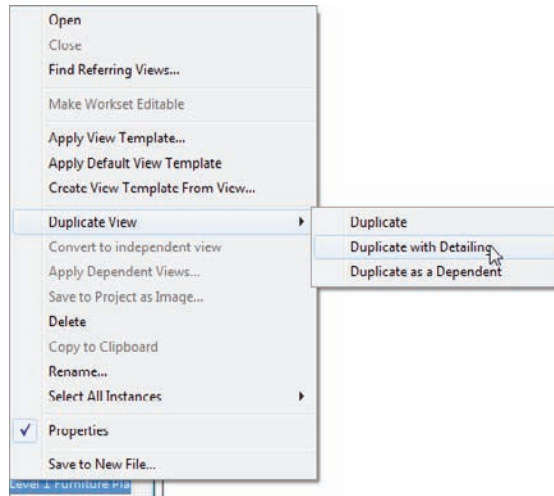

FIGURE 15.17 Duplicating the view
1. Right-click the Level 1 floor-plan view, and select Duplicate View > Duplicate With Detailing, as shown in Figure 15.17. If you get an error pertaining to the view references, click the Delete button.